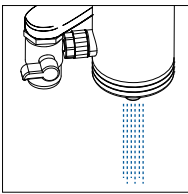

Figure 1.2
4. Switch the lever to the level position and run water to the system slightly. Flush it for 3 minutes during the first sue. [Figure 1.2]